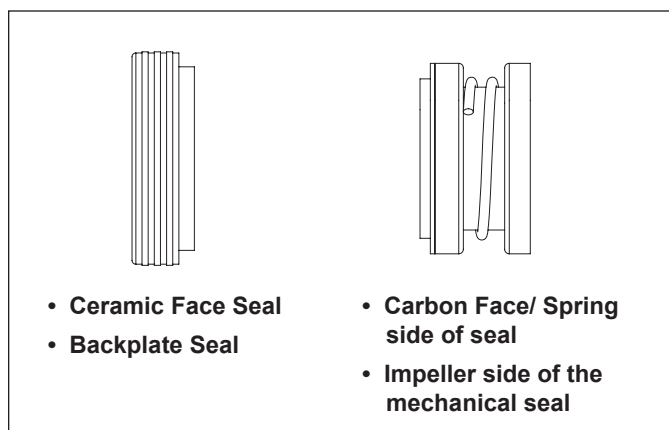

Figure 8. Replace the Mechanical Seal
2. Remove the carbon face seal half from the impeller (see Figure 8). This is a spring loaded seal. Grasp the portion of the seal closest to the impeller body and pull the seal off using a twisting motion.